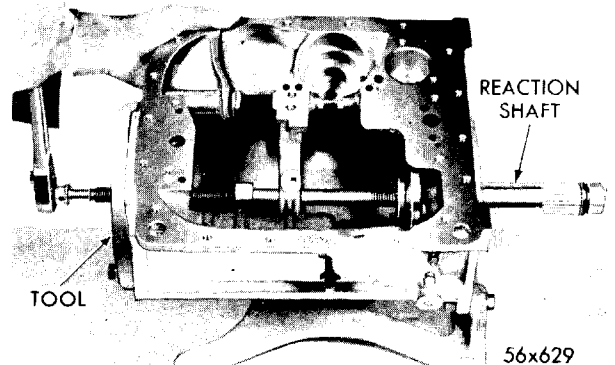

Fig. 57—Removal and Installation of Torque Converter Reaction Shaft
(3) Using Tool C-3531 press reaction shaft out of transmission case Figure 57.